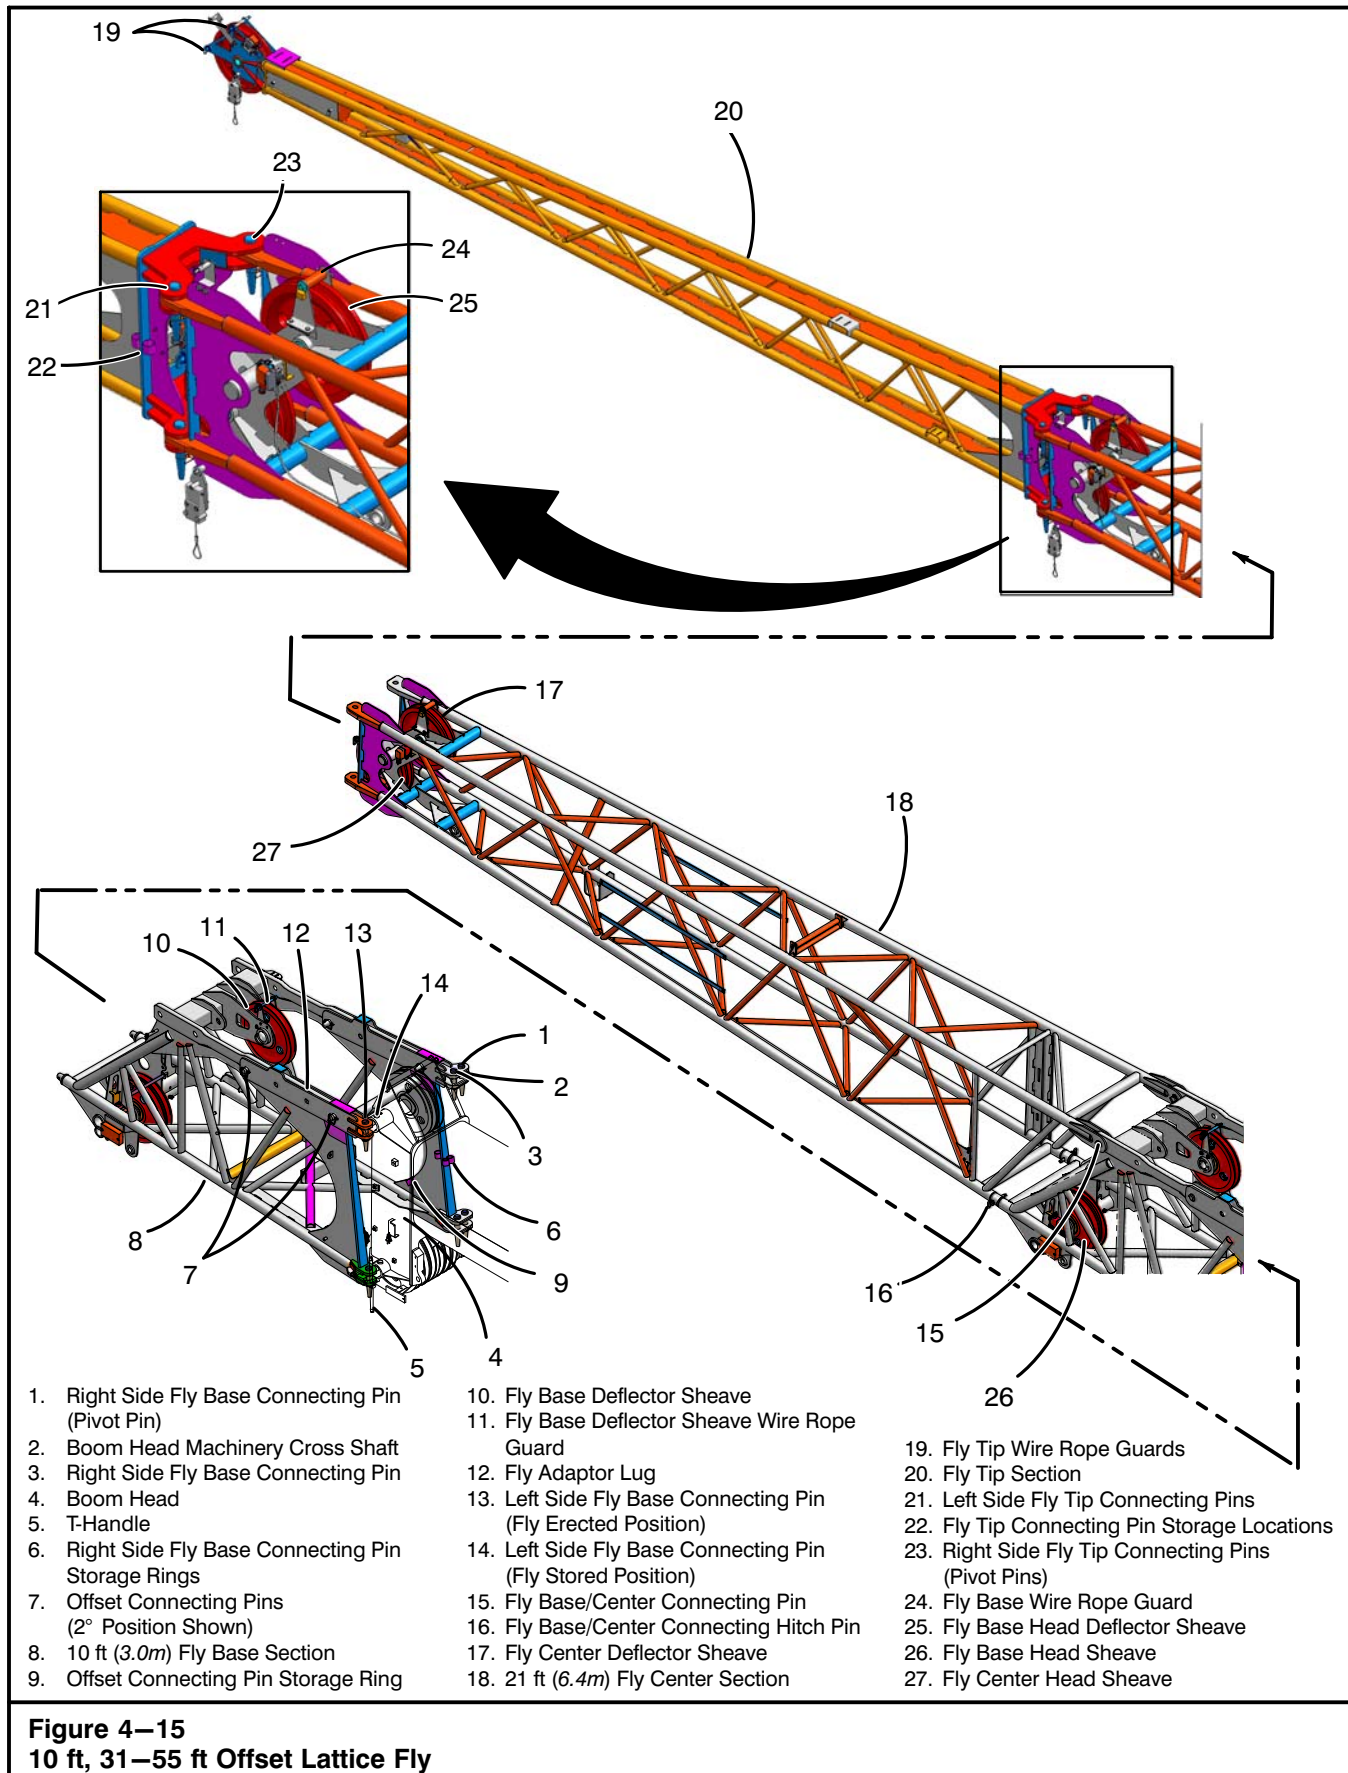

Figure 4-15
9. Remove the four fly connecting pins from the storage rings at the right rear of the fly base section. Refer to Right Side Fly Base Connecting Pin Label, Figure 4-10 and Figure 4-15. Install all four pins to connect the fly lugs to the boom head machinery cross shafts on the right side of the boom. (Install the pins with the head on top and keeper on the bottom. Install the pin keepers.
10. Remove the two fly connecting pins from the boom head machinery cross shafts on the left side of the boom head. Refer to Left Side Fly Base Connecting Pin Label, Figure 4-11 and Figure 4-15. Install the top pin to connect the fly lug to the boom head machinery cross shaft on the left side of the boom head. Turn the t-handle as required to push and align the bottom left fly lug and the bottom boom head machinery cross shaft. Install the bottom left fly connecting pin. (Install the pins with the head on top and keeper on the bottom.) Install the pin keepers. Back off the t-handle until at least a 1/2 in (1.3cm) clearance from the fly lug is obtained.